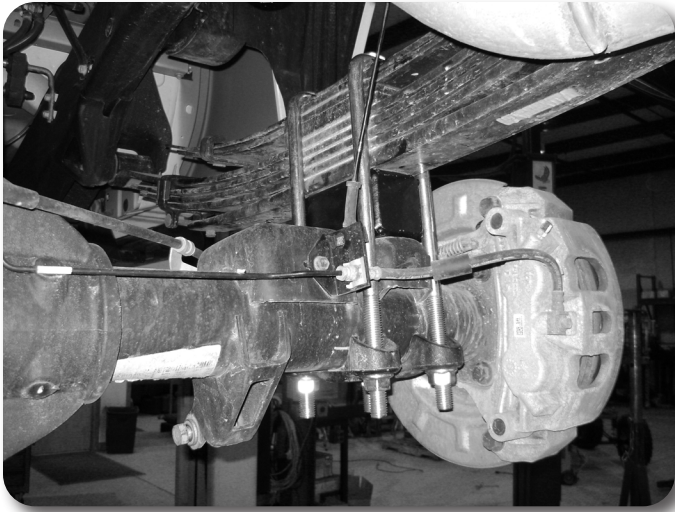

Figure 12
10. Install the new blocks between the axle and the leaf spring. Align the pins/holes and raise the axle to seat the assembly. Install the new provided u-bolts with the factory u-bolt plate. **Figure 12** Fasten with the provided locking flange nuts. Snug hardware. Final torque will be down with the vehicle on the ground.